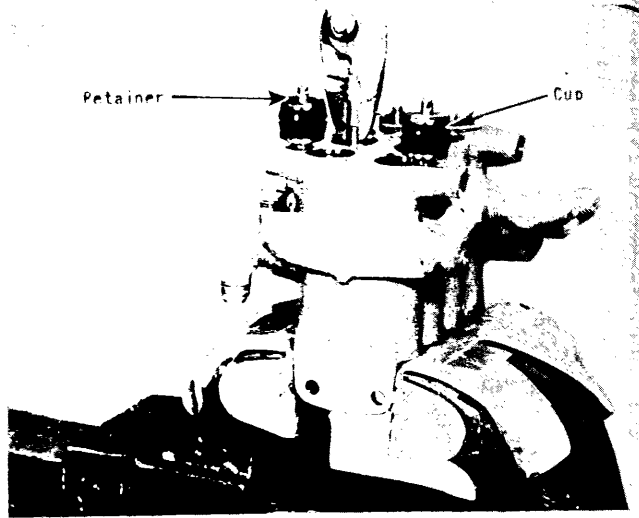

Figure 134 - Removing Retainers
(8) After the rings are all removed engage the ends of the retainers by a pair of pliers and pull the retainers free of the valve body. (See figure 134.) When removing the retainers exercise extreme care